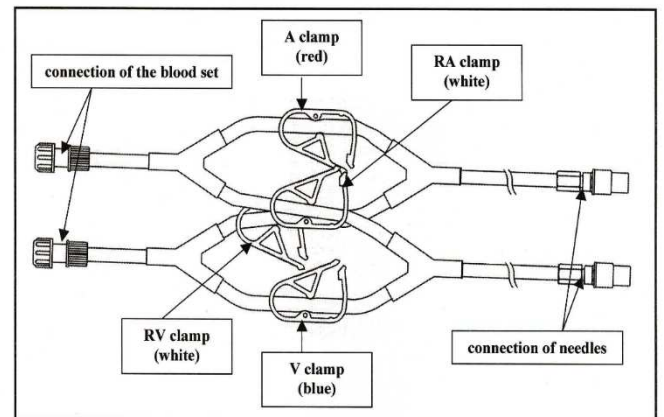

Fig. 1 Flow Reversal Device
According to specialised guidelines (K/DOQI¹, EBPG²), regular assessment of blood flow (QVA) is an optimal method of monitoring the quality of vascular access for the purpose of haemodialysis. Majority of QVA-assessment methods requires short-time inverted connection of needles to an extracorporeal circuit (an arterial needle connected to a venous blood set, and a venous needle connected to an arterial set). The Flow Reversal Device allows inverting the connection of needles to an extracorporeal circuit by means of a simple change of closed clamps while no disconnection is required (refer to Fig. 1). Thus, it considerably facilitates the measurement process, and increases the hygiene of work. The set is installed between the needles and respective outlets from the blood set (red connectors of the Flow Reversal Device are connected to the arterial needle and the arterial set; blue connectors to the venous needle and the venous set), and can be used in combination with any type of a blood set. In case of normal connection, the red arterial clamp (A) and the blue venous clamp (V) are open during dialysis; in inverted connection, A, V clamps are closed, and inverting white RA, RV clamps are open. The Flow Reversal Device is a medical device of IIa class.